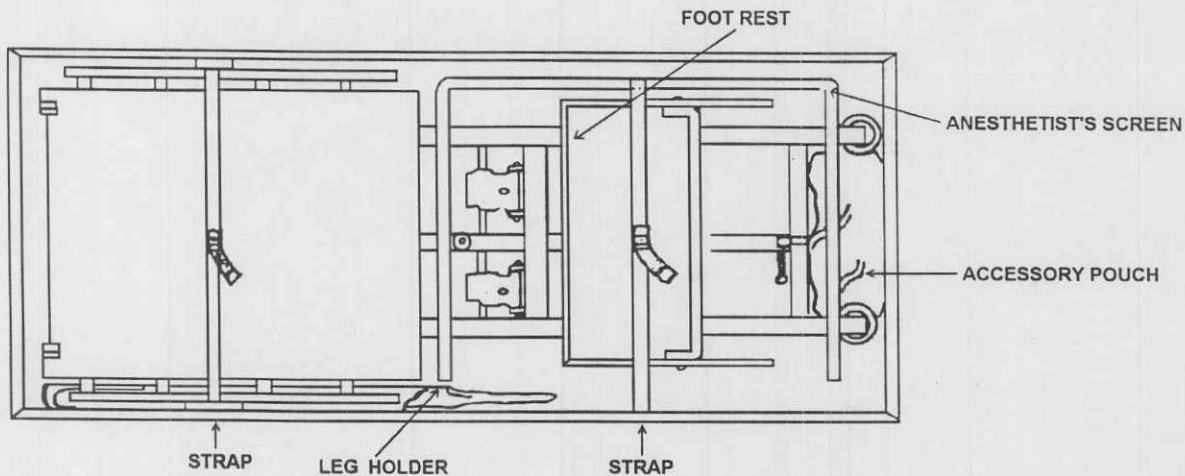

Figure 2-2. Table.
*b. Assembly of the table (fig 2-2).*
- (1) Hold the table in an upright position: